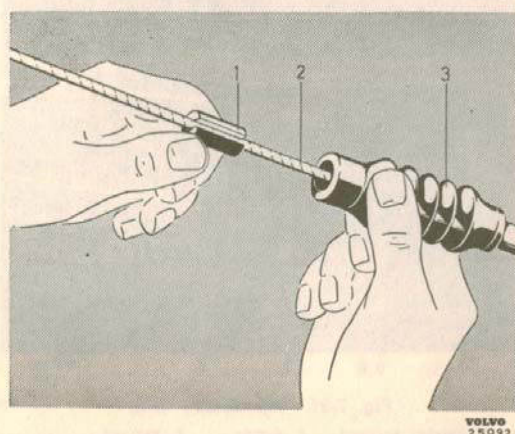

Fig. 7-30. Fitting the rubber cover
For this replacement there is a special rubber cover available with sealing plugs (part nos. 86850 and 86851 respectively). When replacing, the pull-rod is removed from the lever and the cable unhooked from the clevis. Cut off the old cover and fit on the new one. Hook on the cable to the clevis and refit the pull-rod. Fit the slotted sealing plug (1, Fig. 7-30) on the cable (2) and press it into the rubber cover (3).